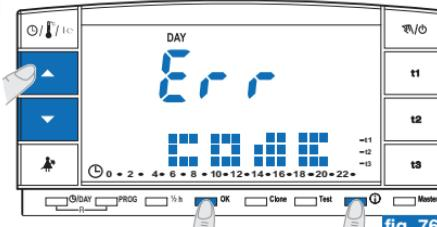

fig. 76
- If you enter the wrong password, the display will show **Err** (fig. 76).